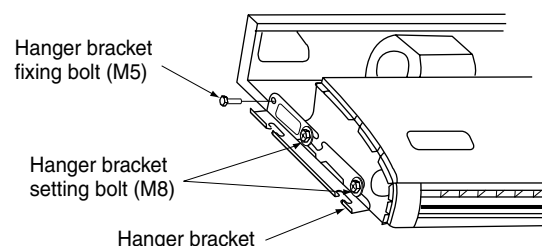

Fig. 7
- Remove two hanger bracket fixing bolts (M5) on the rear side. Detach the hanger bracket by pulling backwards. **(Refer to Fig. 7)**